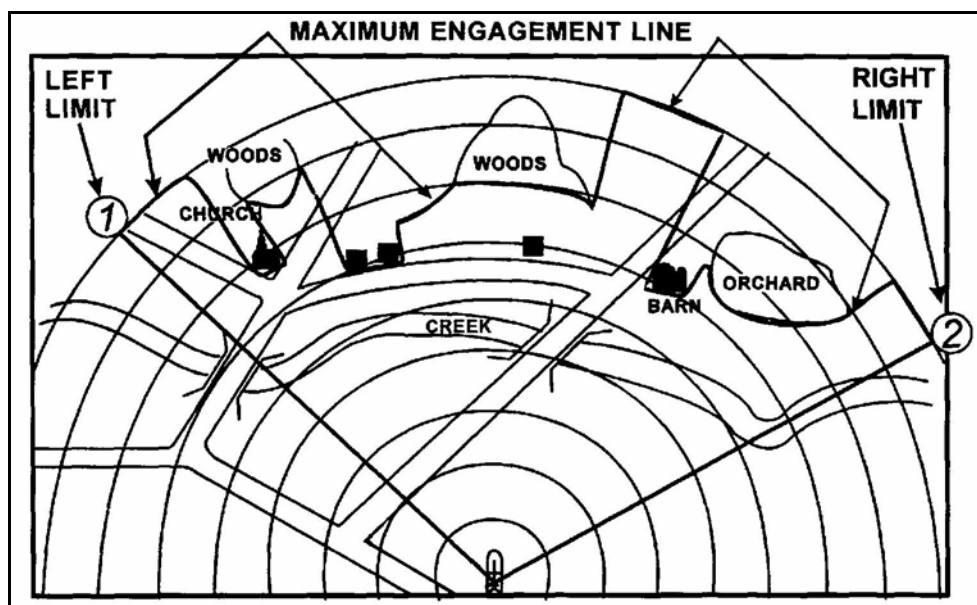

Figure B-6. Sector of fire and maximum engagement line.
c. **Left Limit and Right Limit.** Left and right limits are imaginary lines from the gunner's firing position to a designated point on the ground (Figure B-6). Use terrain features when possible to designate left and right limits. Other recognizable objects such as a building or other man-made structures can be used. The area between the left and right limits depicts the gunner's sector of fire or area of responsibility. Lines are drawn from the designated firing position to the MEL in the area of the designated limits. Number the left limit as *No. 1*, number the right limit *No. 2*, and place a circle around each number. ***Record the azimuth and distance of each limit in the data section.***
d. **Maximum Engagement Line.** The MEL designates the maximum effective range of a weapon (Javelin) and the gunner's line-of-sight limitations due to the terrain in his given sector of fire (Figure B-6).
(1) If there are no limitations, draw the MEL along the last circle in the sector sketch section. The line should connect with the left and right limit labels.
(2) If there are limitations, starting at the left limit, draw the MEL in front of the limiting terrain features. The MEL should extend in front of and follow the limitations until it reaches the right limit.